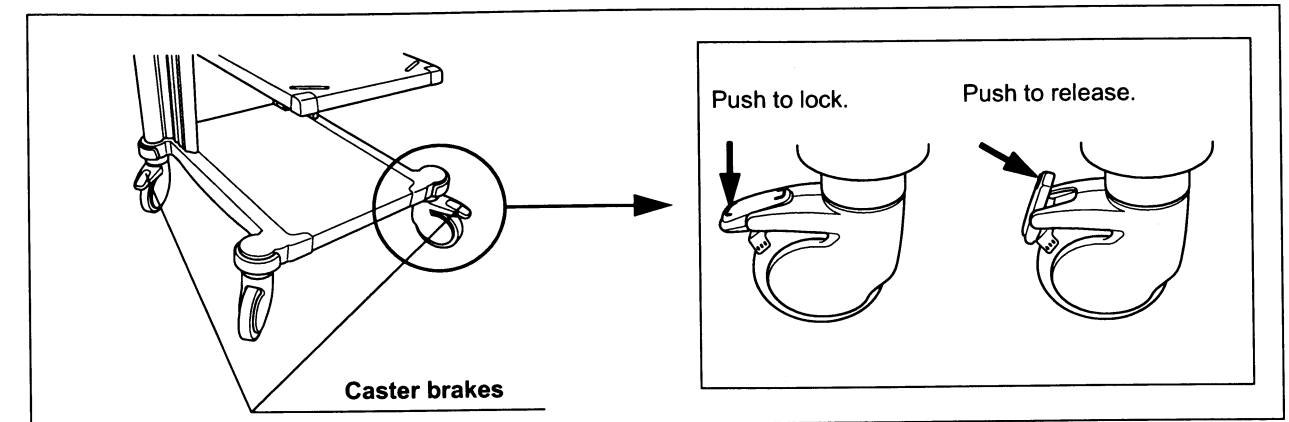

Figure 7.2
1. Place the mobile workstation on a level surface. Lock the caster brakes as shown in Figure 7.2.